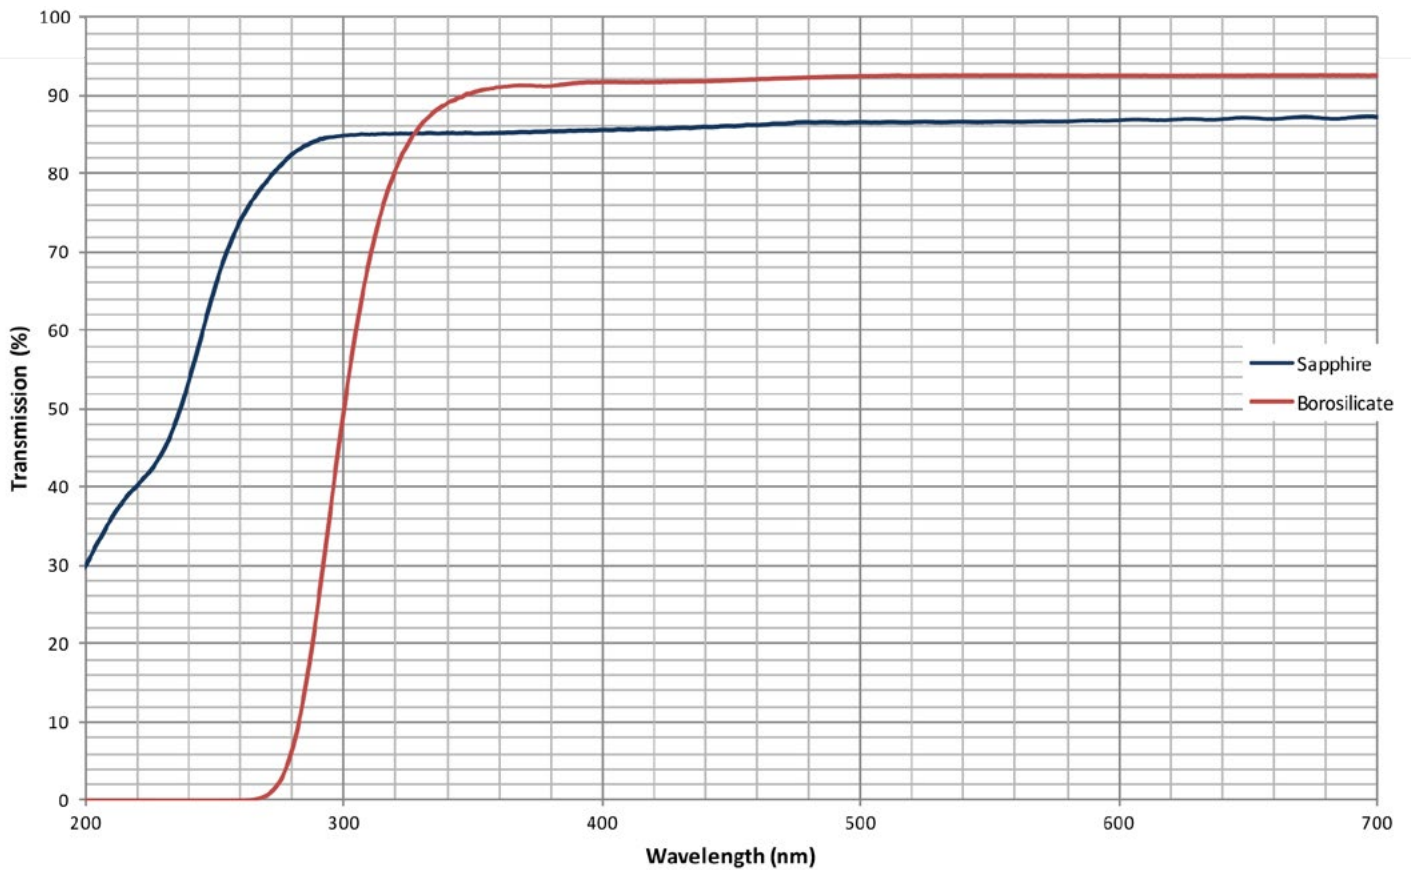

Figure 1. Percentage transmission comparison from 200-700nm of borosilicate and optical grade sapphire.
In optics, transmission is a measure of how much light propagates through a medium. Optical materials have different transmission properties depending on what they are made from and what impurities they contain. Depending on application and/or performance characteristics, optical elements can be made from many different materials. For example, many standard glasses, like borosilicate, do not transmit well in the ultra violet (UV) wavelengths of light, whereas sapphire transmits well down to 200nm (fig. 1).